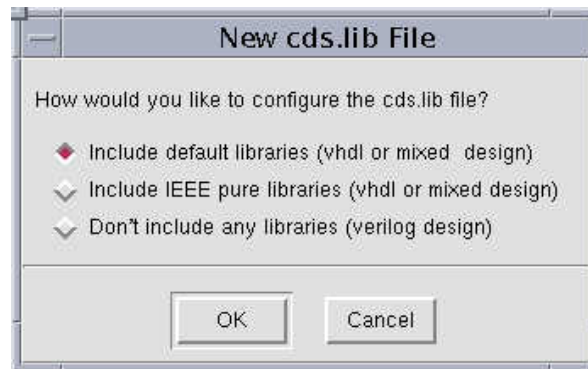

Figure 3-8 New cds.lib File Form.
5. Click on **Save** to create a library mapping file with the default name - cds.lib. NCLaunch opens the **New cds.lib File** form, as shown in figure 3-8. This form lets user pick the libraries that the user wants to use.